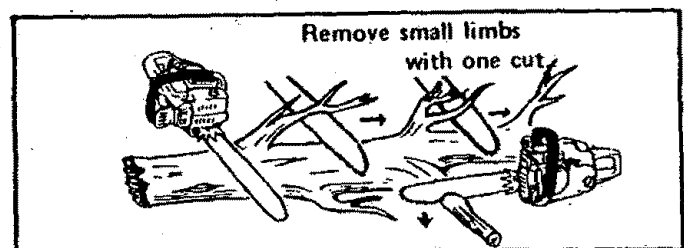

Figure 37
- c. Start at the base of the felled tree and work towards the top, cutting branches and limbs. Remove small limbs with one cut. Figure 37.